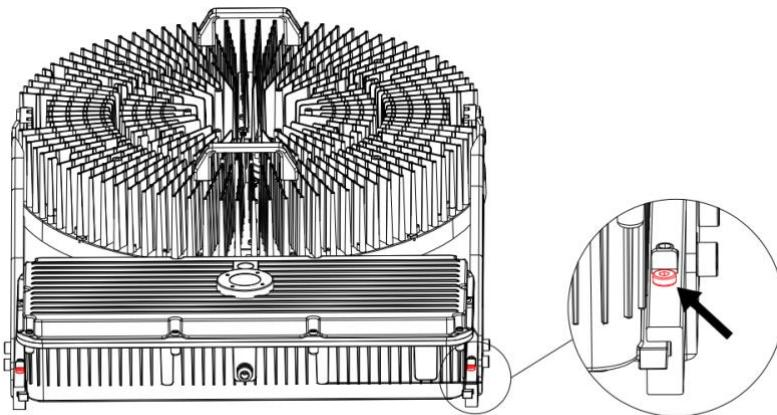
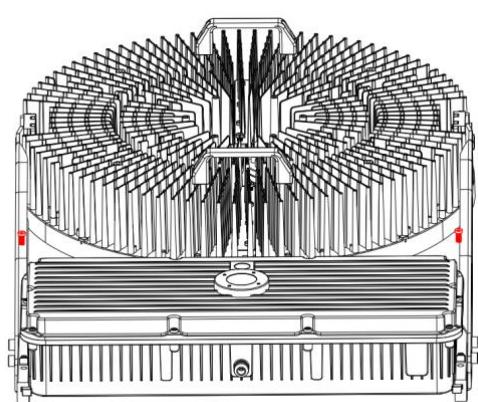

FIG.8
FIG.9
3) For 960W~1440W, unscrew the slot on both sides of the driver box before installation. (See FIG.8 and FIG.9)